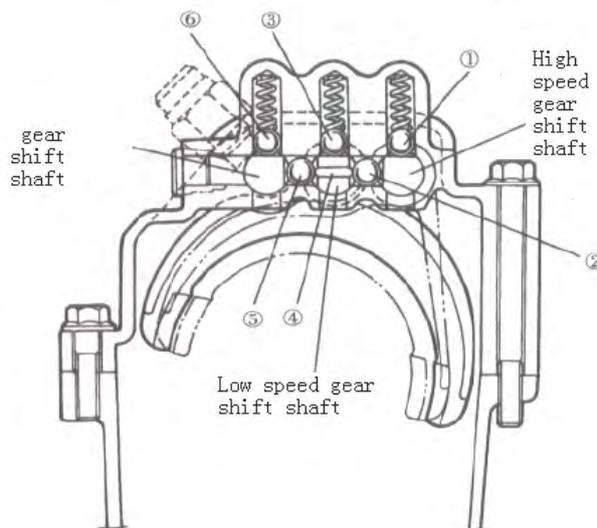
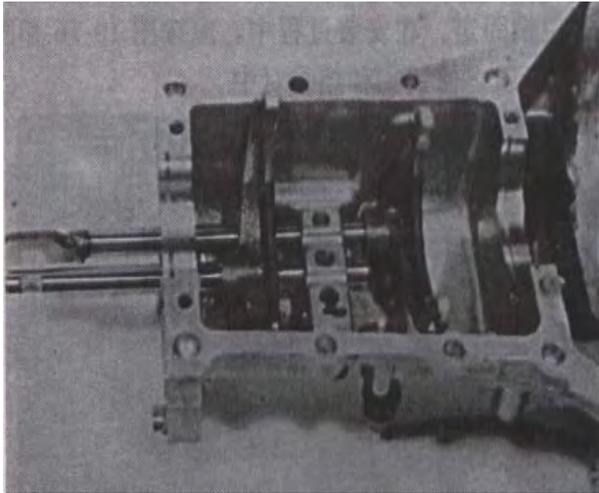
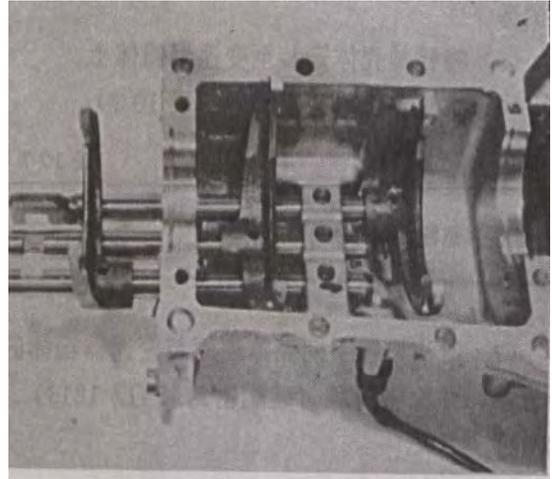

Fig 10-79
Fig 10-83
Fig 10-84
Note that 3 shift shafts individually have a locating ball as ①,③,⑥ and locating spring, and that 2 interlock balls as ②,⑤ and an interlock roller as ④ are used between shafts as shown in FIG.10-79.
(4) Install interlock ball(2 in FIG.10-79) and locating ball(3 In FIG.10-79) in upper case. After installing interlock roller in low speed gear shift shaft and insert shaft into upper case as described in (2) (3) . Fork should be installed in such direction as shown in FIG. 10-83. Then drive shift yoke pin until it becomes flush with outer surface of fork.
(5) Install interlock ball (5 in FIG.10-79) and locating ball (6 in FIG. 10-79) into upper case. Then insert reverse gear shift shaft into upper case as described in (2) , (3) (FIG.10-84)